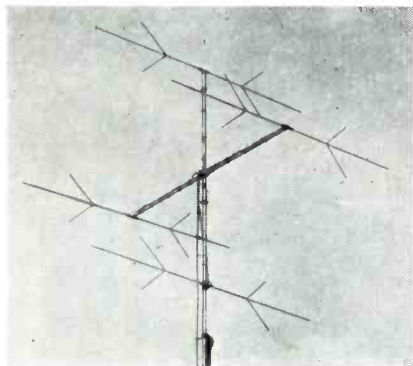

Figure 9
This antenna assembly has quite a tricky network (Figure 9), which operates, with the dipoles, in the following manner:
(4) The TV signals received from the transmitter (X in Figure 9) are induced into the four dipole assemblies, transferred down lines A and B and appear at ends of the bridge as in-phase voltages. There is no potential across the resistor, however, because
(5) The TV signals received from the transmitter (*Y* in Figure 9), which feed the dipoles from the opposite direction, are transferred down lines *A* and *B* and appear out-of-phase at the ends of the bridge and across the receiver input. However, they are in phase and additive across the resistor (which absorbs the signal) and therefore unidirectional reception is assured. This is a very desirable arrangement which prevents venetian-blind effects in a fringe area, where it's possible to pick up two stations on the same channel, such as channels 4 in New York City and Boston.